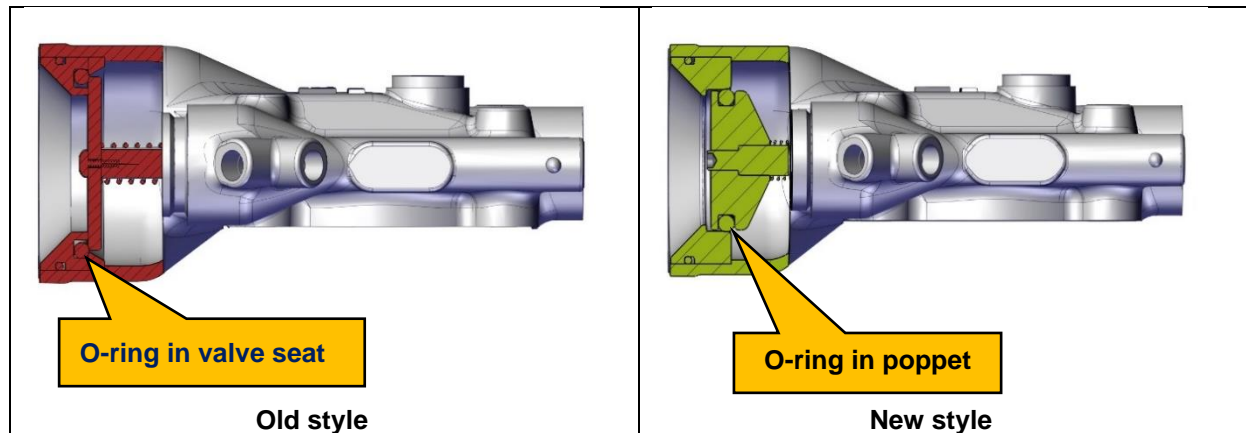

Figure 2
- Push the poppet valve in to open and confirm that the poppet seat O-ring has not become dislodged and is not damaged. (Figure 2)